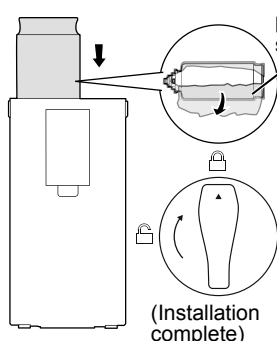

Fig. 1
- 1 Remove the main body top cover, insert the replacement cartridge (after removing the plastic sealing film) into the product in the direction of the arrow shown in Fig. 1 and rotate clockwise to install. The installation status is shown in Fig. 1. After the replacement cartridge is installed, put the main body top cover back on.